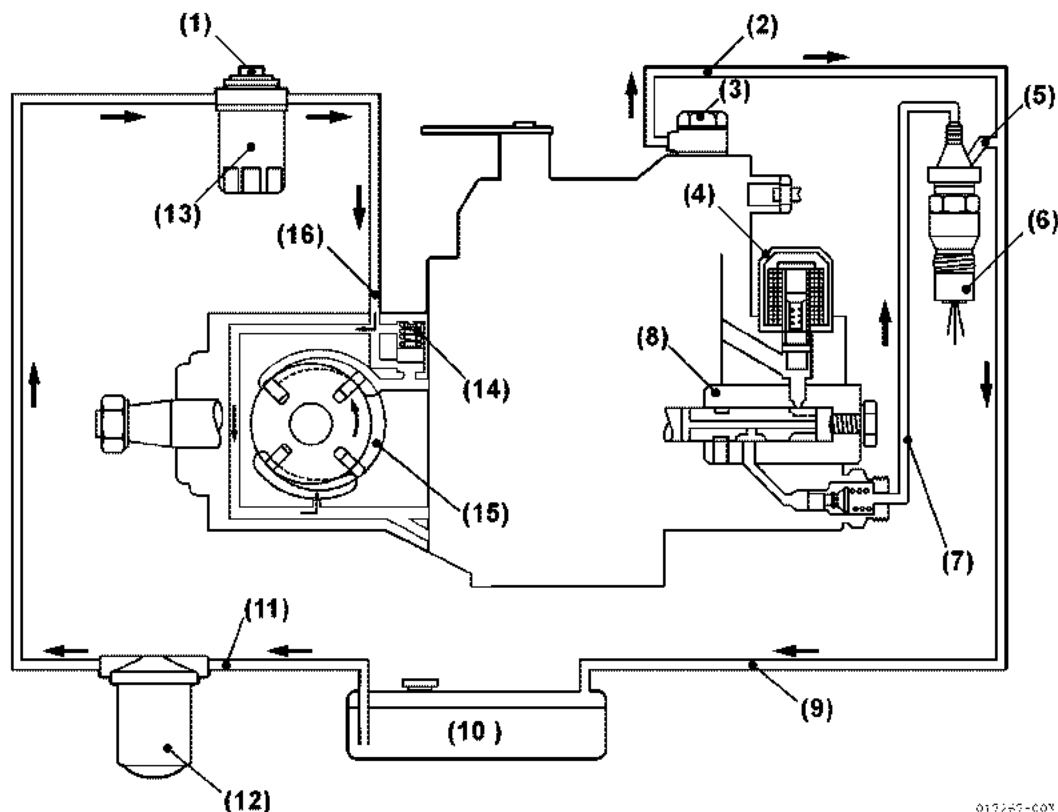

Figure 6-18
4. Remove supply line (**Figure 6-18, (16)**) and pressure line (**Figure 6-18, (2)**), (**Figure 6-18, (7)**) from fuel feed pump. Install caps or plugs on all open fittings to prevent contamination of the fuel system.
Note: For 4JH4-TE and 4JH4-HTE, the fuel feed pump is built in the fuel injection pump / governor system (**Figure 6-18**). If fuel pump portion needs to be changed, contact an authorized Bosch service factory or dealer.